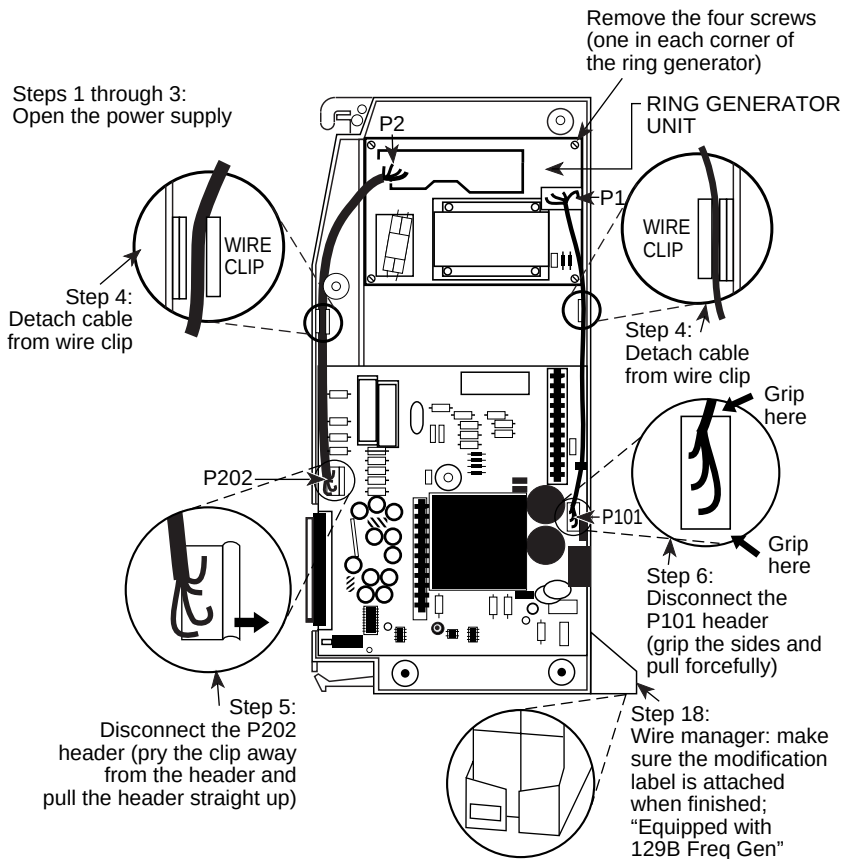

Figure 4-2. Replacing a Ring Generator
- ▶ **7. Remove the four screws from the ring generator, as shown in Figure 4-2.**
- ▶ **9. Position the replacement ring generator, as shown in Figure 4-2. Align the screw holes.**
- ▶ 18. Verify that the modification label (Equipped with 129B Freq Gen) is attached to the front of the power supply (shown in Figure 4-2).